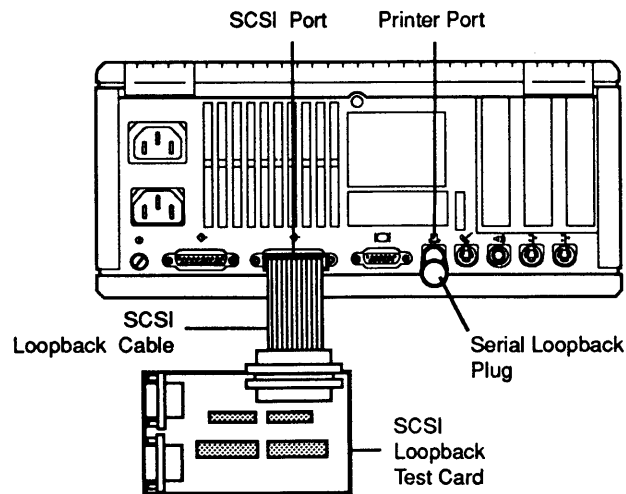

Figure 3-5 Loopback Cable and Plug
3. Connect the SCSI loopback card cable to the SCSI port on the back of the UUT (**Figure 3-5**).
4. Connect the serial loopback plug to the printer port on the back of the UUT (**Figure 3-5**).